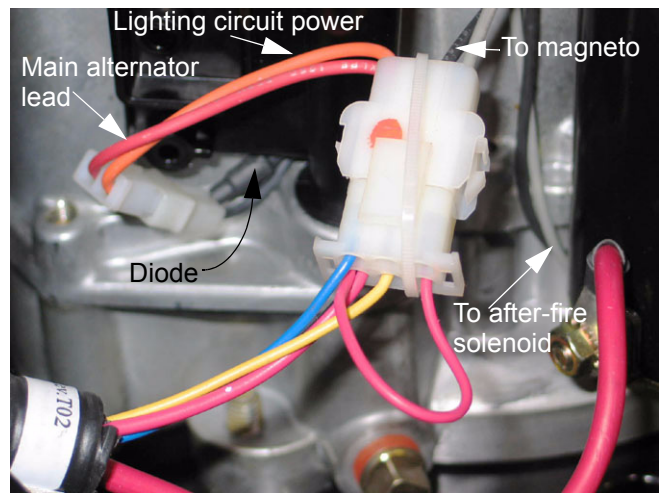

Figure 17.34
17.34. The engine harness connector on the Briggs and Stratton powered Troy-Bilt tractor also contains alternator and safety circuit components. See Figure 17.34.